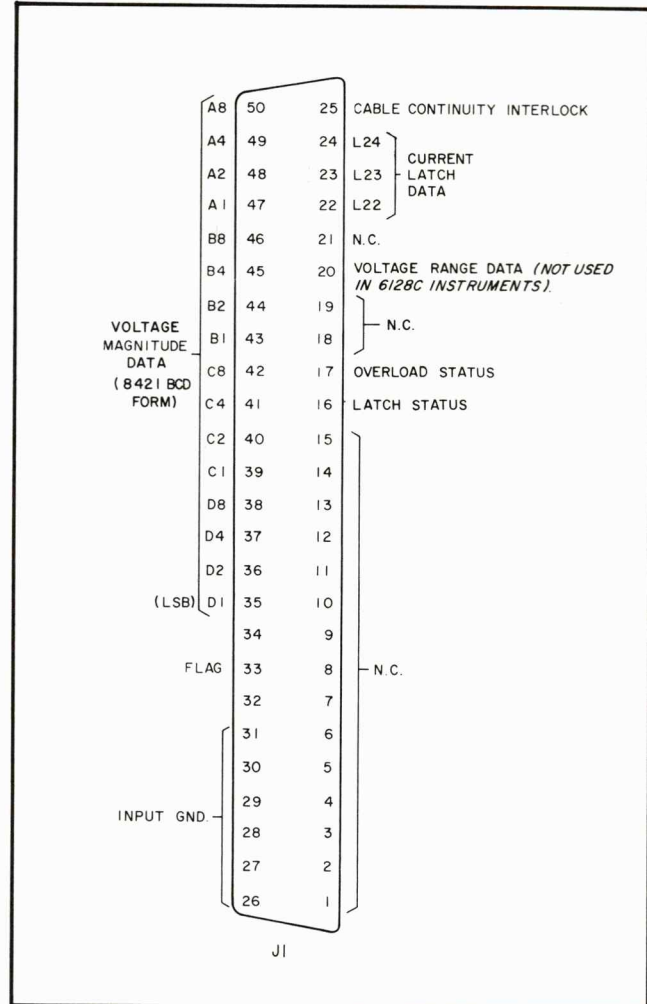

Figure B-1. Input/Output Data Connector
B-6 Input/output data is connected to the digital programming source by means of the rear connector (Figure B-1). The parameters associated with each of the signals of Figure B-1 are discussed in the following paragraphs.
B-32 Input data must be connected to (3) common of the DVS (pins 26 through 31) shown on Figure B-1. These pins are internally shorted together within the connector jack.